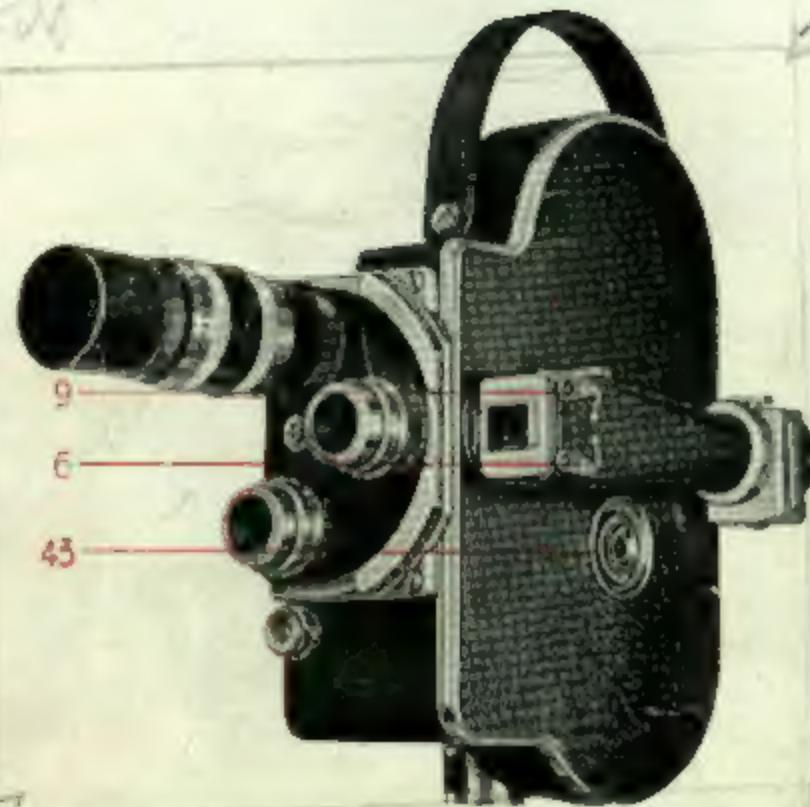

Fig. 8.
- Remove the lid by means of button 43 (Fig. 8), giving a half-turn anti-clockwise (0←→).